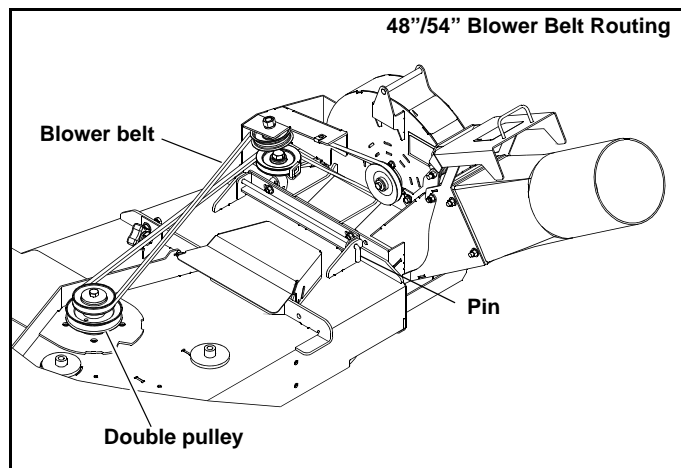
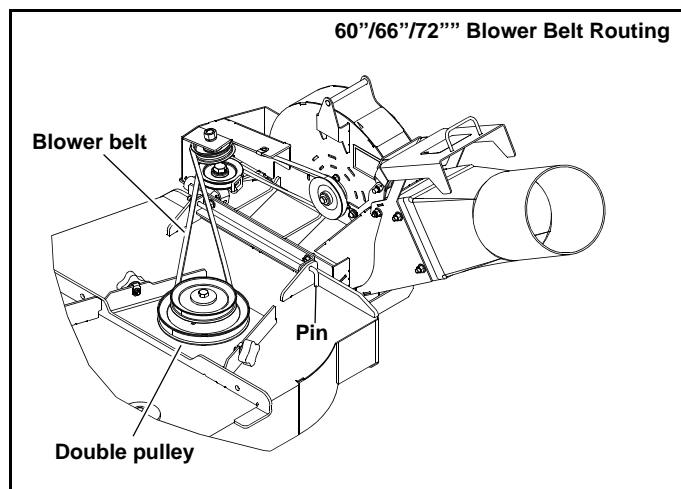

Figure 4-3
Figure 4-4
5. Release the tension from the blower drive belt and remove it. Figure 4-3 & Figure 4-4
6. Remove the pin that connects the blower to the discharge chute bracket tabs and remove the blower housing. Figure 4-3 & Figure 4-4